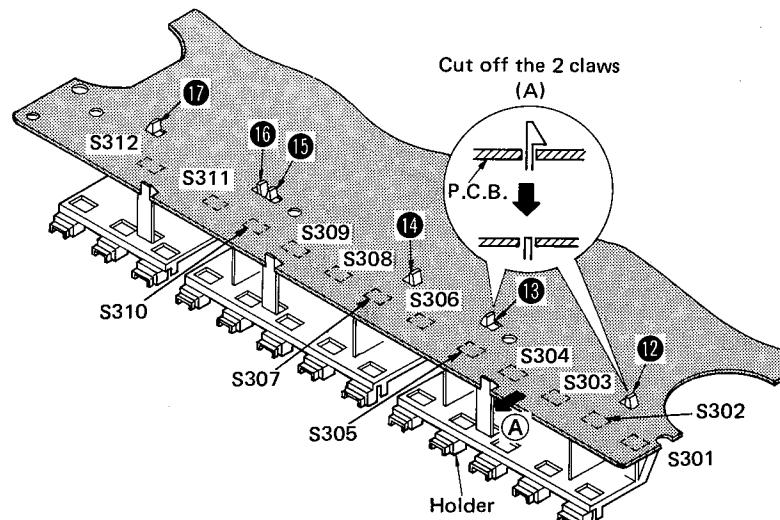

Fig. 4
2. When removing S301 ~ S305, cut off the 2 claws (Fig. 4 : ⑫, ⑬) of LED holder. (Fig. 4-A )
4. Release the claw A of LED holder and remove the LED holder from the printed circuit board. (Fig. 4)
6. To remove S306 ~ S310, cut off claws ⑭ and ⑮ .
7. To remove S311 and S312, cut off claws ⑯ and ⑰ .